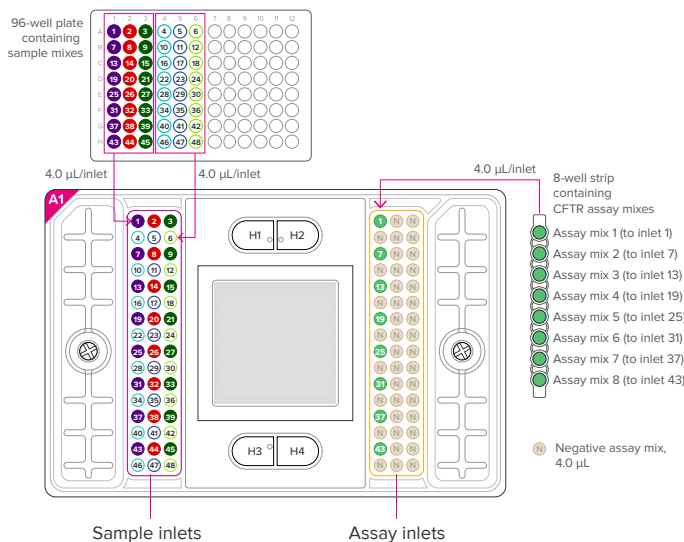

Figure 5. Loading map
- Before pipetting reagents, maintain traceability by noting the orientation of the A1 corner, assay inlets, and sample inlets, as shown in Figure 5.
- 1 Pipet the CFTR assay mixes and sample mixes into the LP 48.48 IFC as shown in Figure 5.